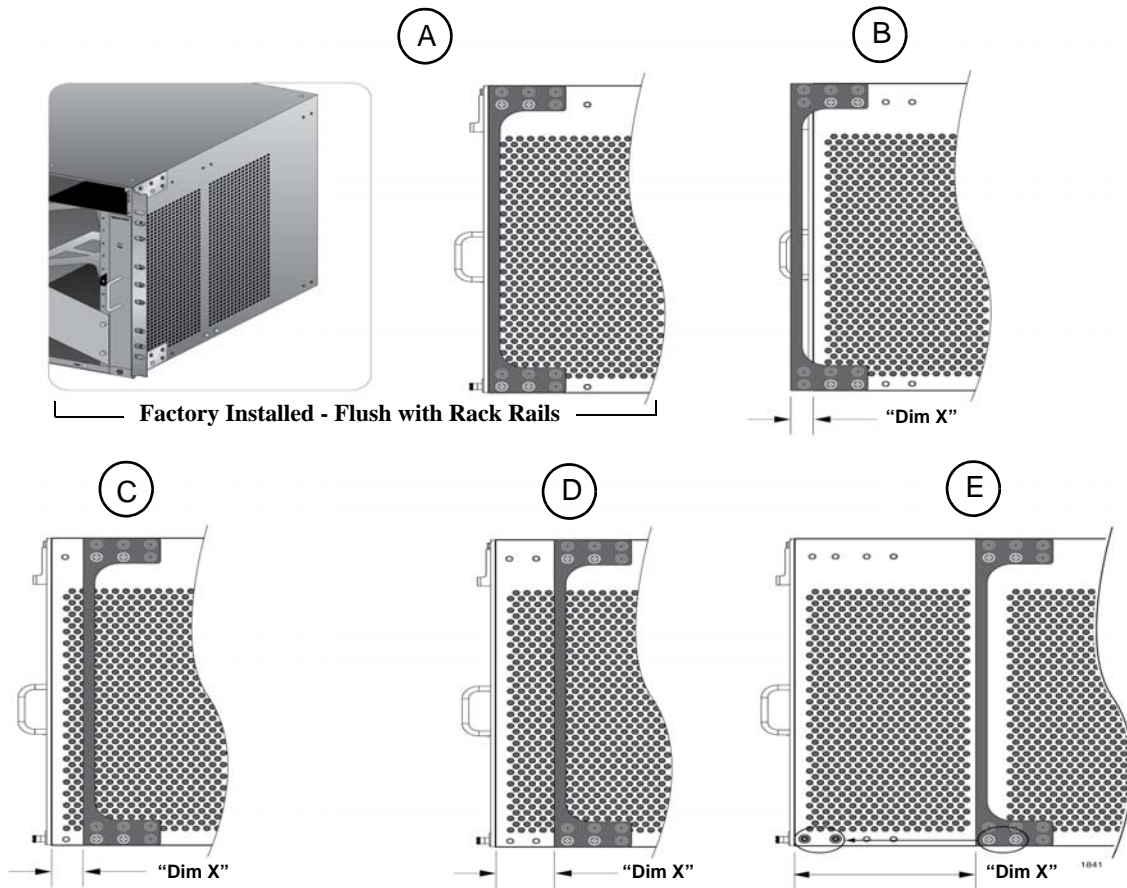
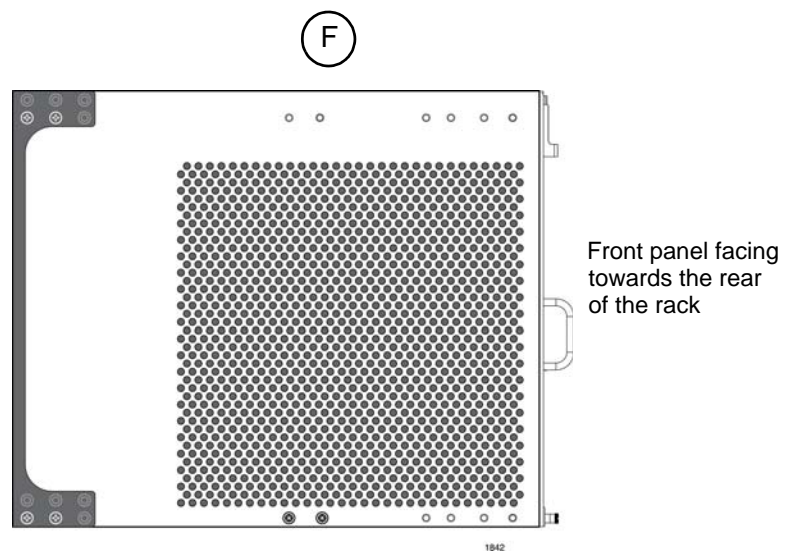

Figure 37. Rack Mounting Bracket Locations
Figure 38. Rack Bracket Locations for Reverse Position of Chassis
The different bracket positions are listed in Table 24 and illustrated in Figure 37 on page 97 and Figure 38 on page 97. Please review the following information before moving the brackets:
- ❑ To install the rack mount brackets in position “E,” you have to remove the two chassis screws from the bottom-middle section of the chassis and re-install them in front where the rack mount bracket screws were originally, as shown in Figure 37 on page 97.
- ❑ The dimension (X) between the front panel and the rack rails is given for each rack mounting bracket position in Table 24.